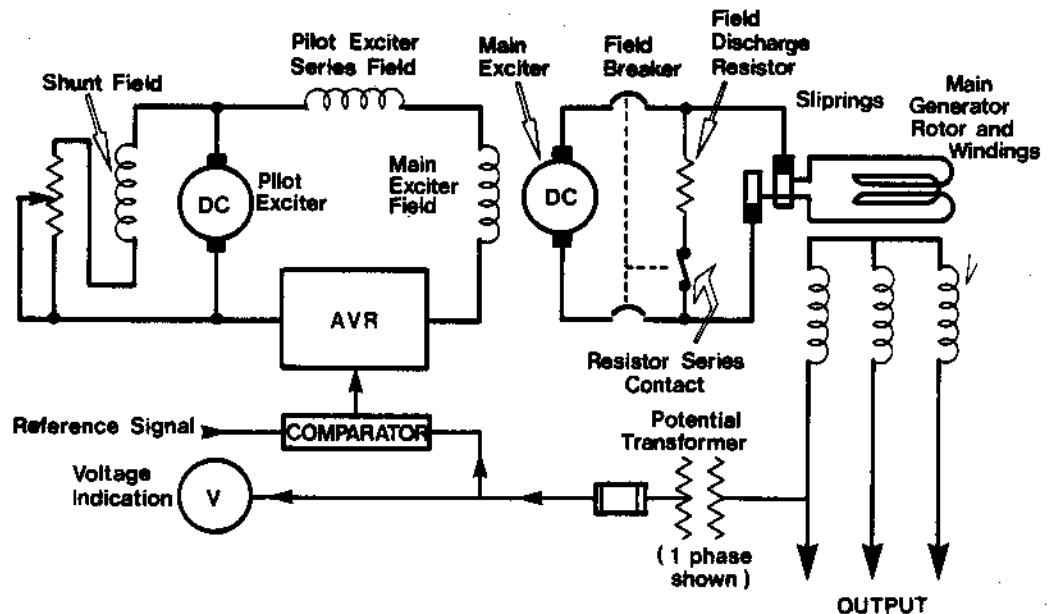

Figure 2: Typical Excitation System for an ac Generator (1 MW to 250 MW).
Medium sized ac generators (1 MW to 250 MW) require more than one stage of excitation, see Figure 2. The automatic voltage regulator could be placed in series with the main excitation supply, but because of the much higher currents involved, (up to 1500 A on a 200 MW generator) the components would be large and costly. There would also be a large power loss. Placing the automatic voltage regulator (AVR), in series with the pilot exciter, enables the AVR to control a small current (less than 100 A). The AVR is now much smaller and cheaper and there is a much smaller power loss, typically one hundredth.
4.3.2 Excitation systems using rectified ac have been developed. These systems have fast response and large outputs. Figure 3 shows a simplified version of the Pickering excitation system. Note that the system is basically the same as the one shown in Figure 2, with the exception that ac pilot and main exciters are used.
The comparator is supplied with the same signals as in Figure 2. The comparator controls the AVR which in turn controls the magnetic amplifier.